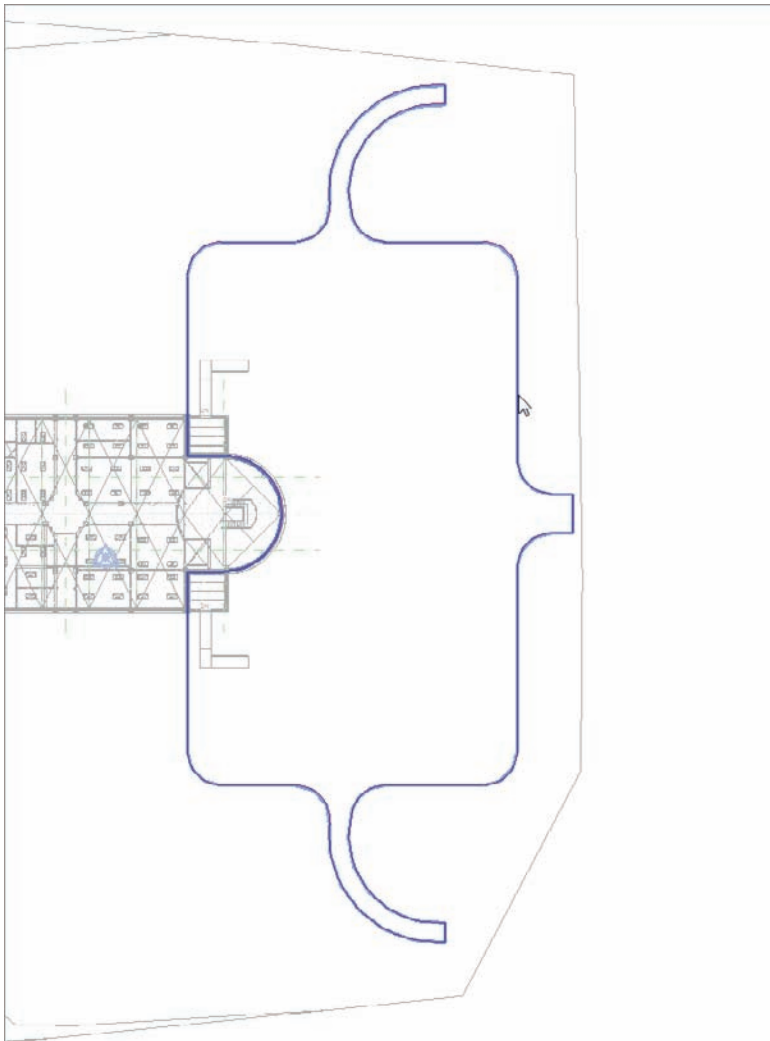

FIGURE 18.12 Sketching the subregion
5. Draw a region similar to the one shown in Figure 18.12. (It doesn't have to be exact.) This image shows a parking area with some pedestrian access. The inside of the parking area simply follows the building footprint.